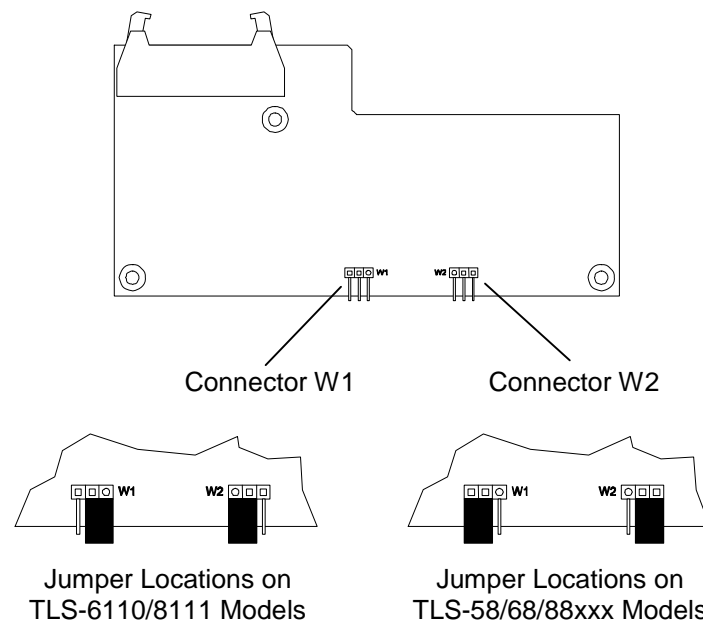

Figure 7-85 Location of Connectors W1 and W2 on Y-Clear Detector PCBA
1. Note the jumpers on connectors W1 and W2 on the Y-Clear Detector PCBA that was removed. Make sure that the jumpers are in the same location on the replacement PCBA before it is installed. See Figure 7-85.